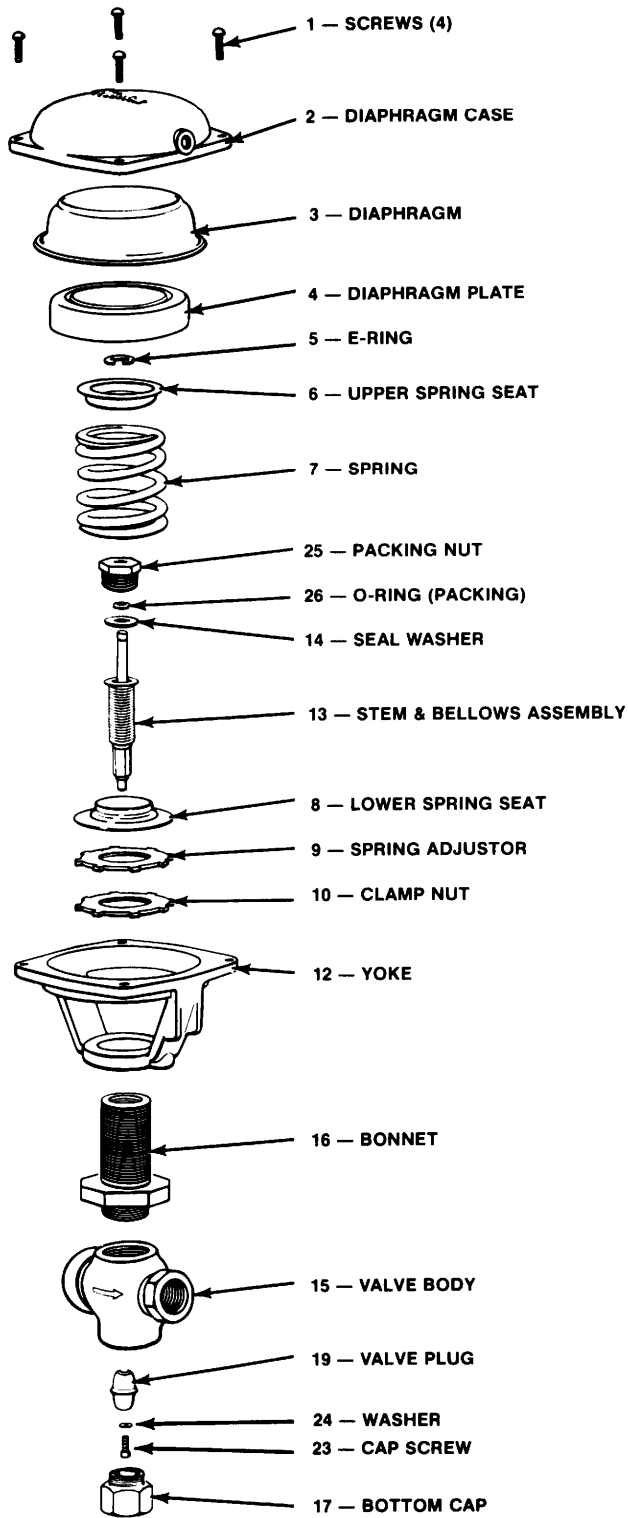

Figure 9
F. REPLACEMENT OF PRIMARY BELLOWS SEAL OR VALVE PLUG (Figure 9)
PARTS LIST FOR FIGURE 9, STYLE BN